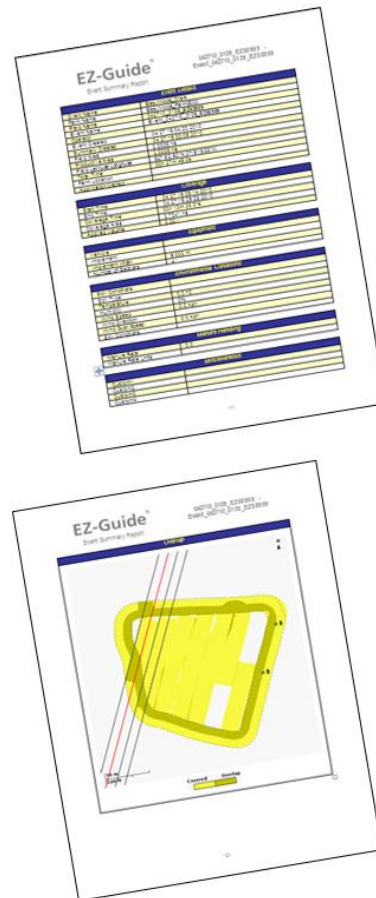

Figure 6.7
- Field area, Productive Area, and Total Times are all included in the report along with other information. Figure 6.7 Shows an example of the report.